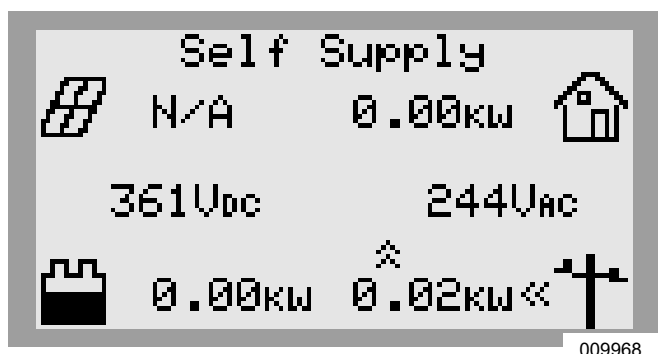

Figure 3-7. Selecting System Modes (5 of 5)
- See Figure 3-7. Verify the mode listed at the top of the home screen is the desired mode.